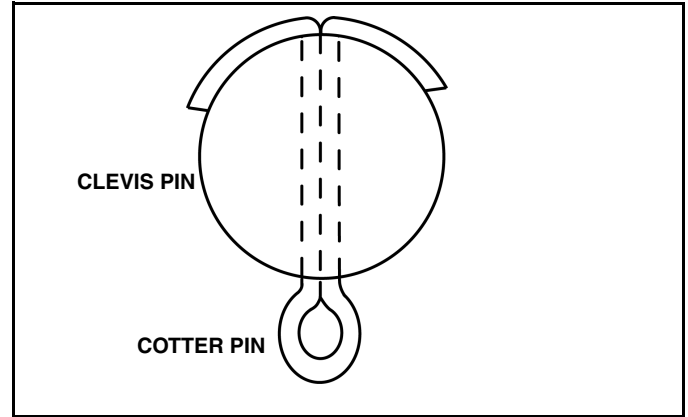
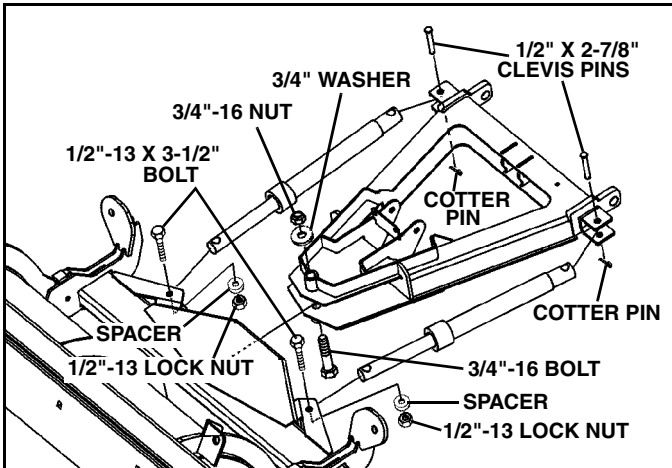
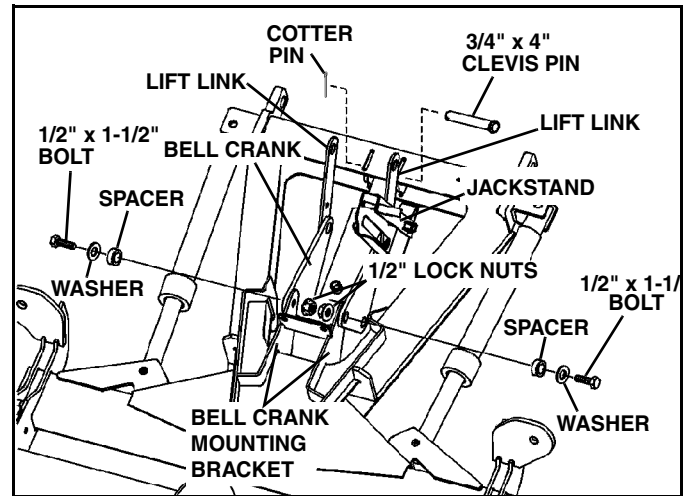
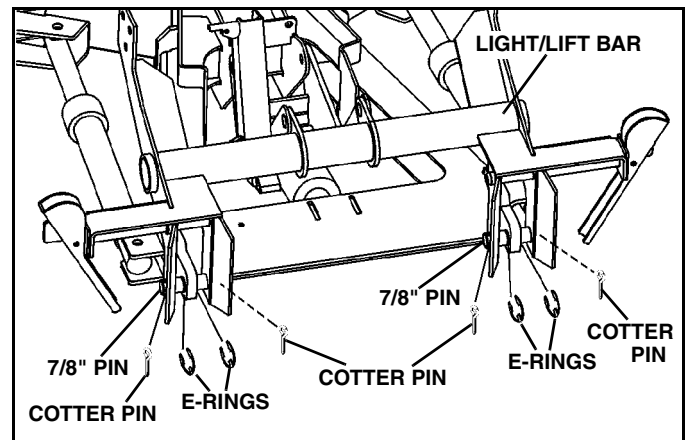

Figure 1-6
Figure 1-8
Figure 1-9
Figure 1-10
NOTE: Note: Make sure cotter pin is properly bent as in fig. 1-6 or pin may work loose.
10. Slide A-frame over top of the swing frame. Make sure the bell crank mounting brackets are on top. (See Figure 1-8).
11. Lubricate the 3/4" bolt from the A-frame parts bag and insert it through the A-frame and swing frame. The bolt head should be on the bottom of the plow. Install the 3/4" nut and washer hand tight only. (See Figure 1-8)
12. Insert the swing cylinders and secure the base end with the 1/2" x 2-7/8" clevis pins in the swing cylinder parts bag. (See Figure 1-8). Install cotter pins and bend as in fig. 1-6 to ensure pins do not work loose. Secure the rod end with 1/2"-13 x 3-1/2" bolts and lock nuts. Be sure to place the spacer between the bottom of the rod and mounting bracket.
13. Remove bell crank assembly from the power pack carton. (See Figure 1-9).
14. Secure the lift cylinder to the mounts on the A-frame using the 3/4" x 4" clevis pin in the A-frame parts bag. (See Figure 1-9). Install cotter pin and bend as in fig. 1-6 to ensure pin does not work loose.
15. Move the bell crank into position on the outside of the bell crank mounting brackets. Remove bushings from A-frame parts bag and coat with anti-seize. Insert bushings into the bell crank. Use two 1/2" x 1-1/2" bolts with washers and 1/2" locking nuts to secure from the A-frame parts bag. (See Figure 1-9). Washers must be placed on the bushing side. Before tightening bolts, make sure lift links can swing up from bellcrank above A-frame as shown in fig. 1-9.
17. Place light/lift bar over A-frame lugs. (See Figure 1-10).
18. Insert the 7/8" pin from mounting parts bag through the light/lift bar and A-frame lug. (See Figure 1-10).
19. Insert the E-rings to hold center A-Frame lug. (See Figure 1-10). Insert cotter pins on each end of pin to hold pin in place. Bend cotter pins (See Figure 1-6) to ensure that pins do not work loose.
21. Install 3/4" washer and cotter pin. Install cotter pin and bend as in fig. 1-6 to ensure pin does not work loose.